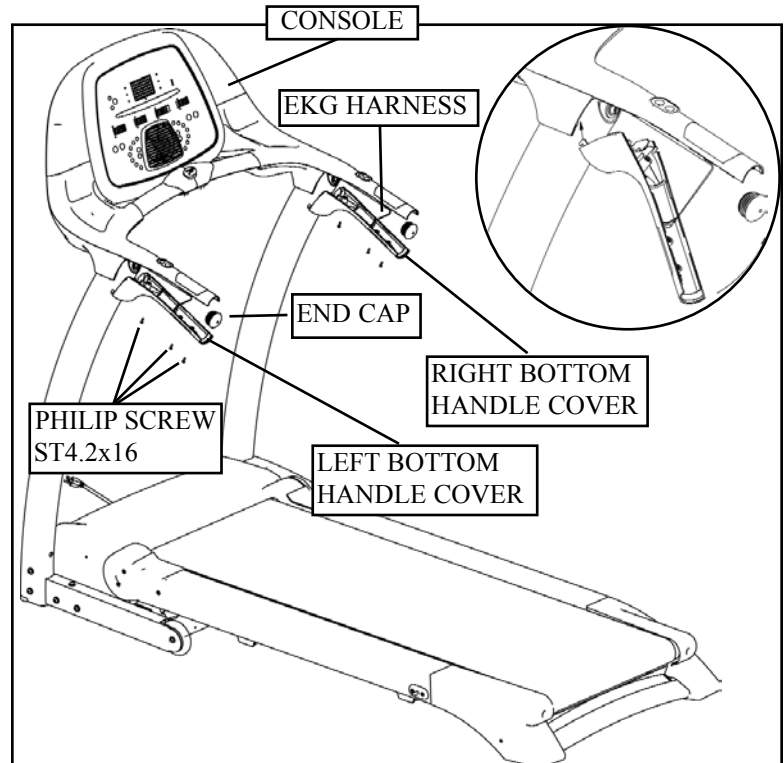

Figure 5: Left and Right Bottom Handle Cover Installation
6. Position the Left and Right Bottom Handle Covers to underside of handle assembly, then connect the EKG Harness Wires to the Left and Right Bottom Handle Pulse Plates as shown in Figure 5.